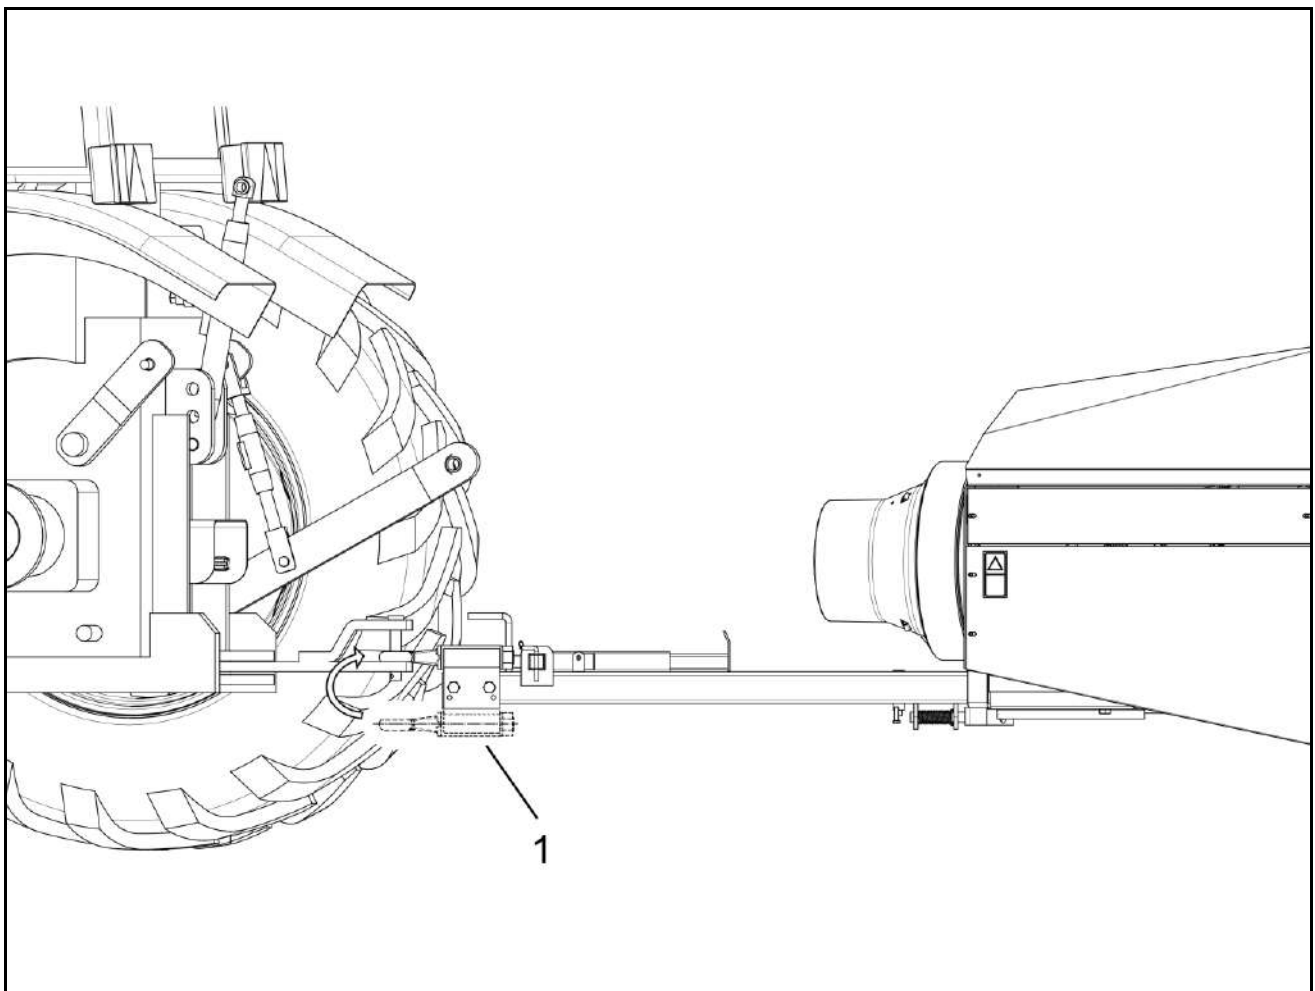

Fig. 7.1
The baler tongue has a tow hitch that can be mounted in two positions, allowing it to be adapted to the dimensions of the tractor (ref. 1, Fig. 7.1).